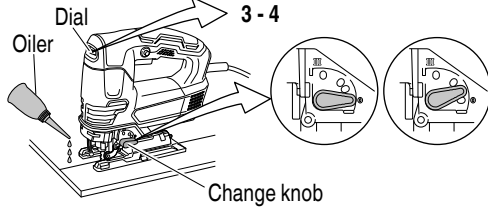

Fig. 16
4. Cutting metallic materials (Fig. 16)